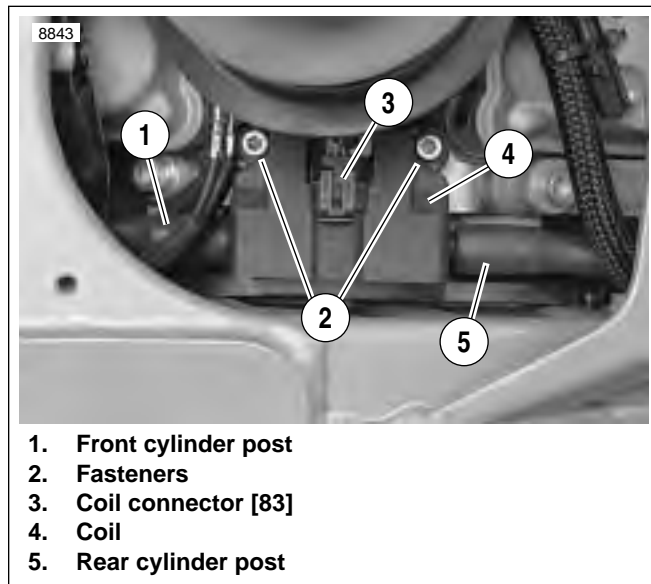

Figure 4-78. Ignition Coil Location
4. See Figure 4-78. Disconnect the spark plug cables from the coil plug posts (1, 5).
5. Detach connector (3) [83].
6. Remove coil fasteners (2).
2. See Figure 4-78. Attach coil to frame with fasteners (2). Tighten to 120-144 **in-lbs** (13.6-16.3 Nm).
4. Attach connector (3) [83].